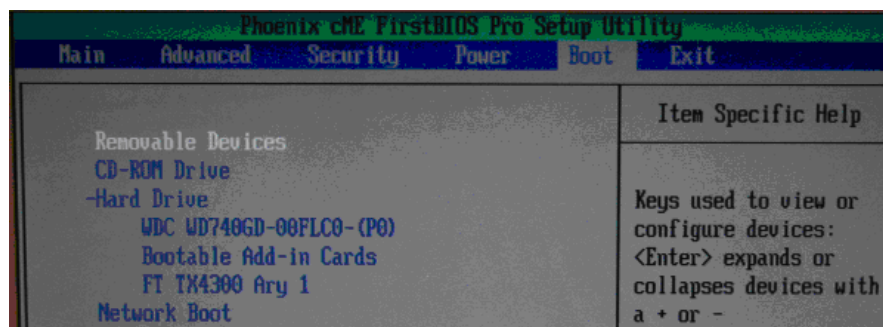

Figure 1-17. Boot Configuration Phase II Hardware
- Use the arrow keys to highlight the **Boot** menu option. The "Boot" screen displays "Removable Devices", "CD-ROM Drive", "+Hard Drive", and "Network Boot" in some order (Figure 1-17).